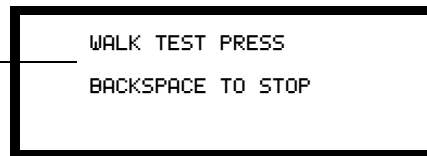

Figure 95 The LCD Display in Walk Test
2. From the Walk Test Entry screen, press the ENTER key. The control panel goes into Walk Test and the Walk Test screen appears as shown in Figure 95: